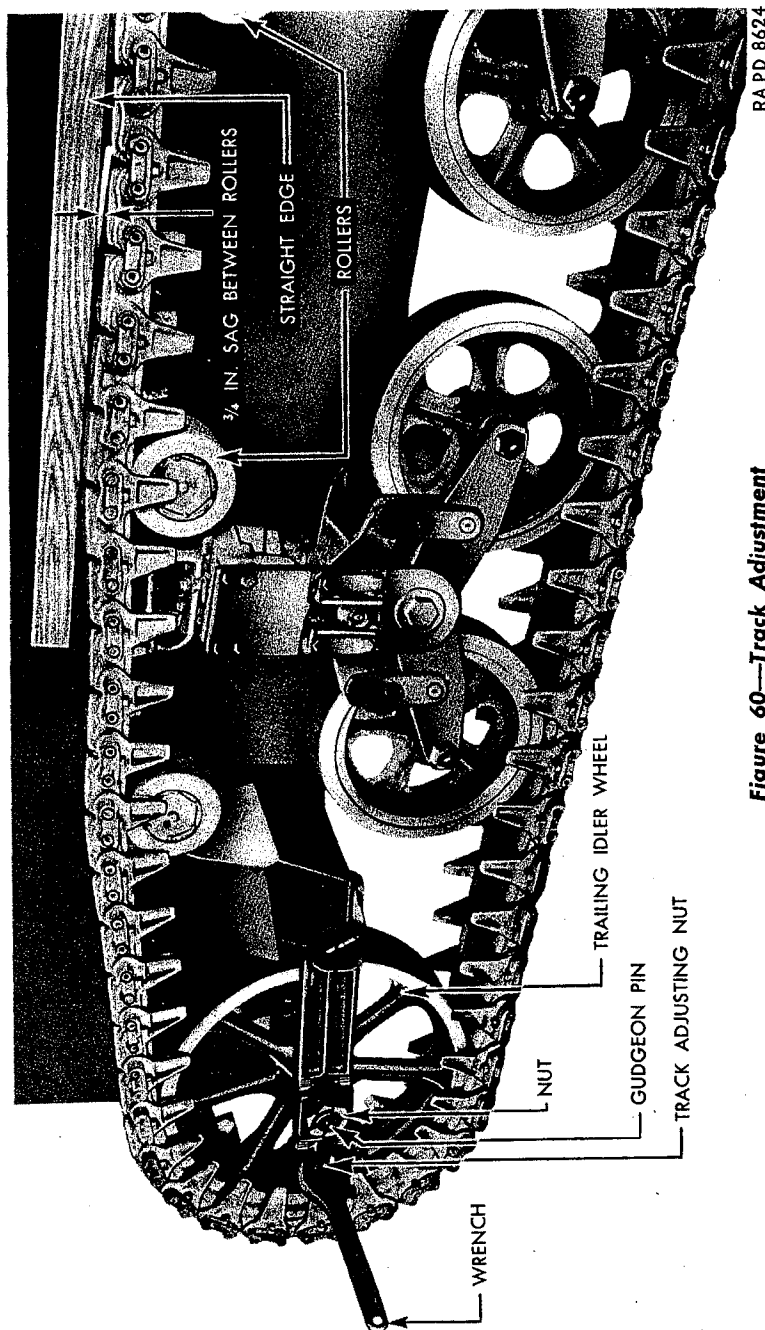

Figure 60—Track Adjustment
a 4-foot pry bar between the track and the mud guard at the point of measurement and press the track down with at least 175 pounds pressure. Then release the pry bar and allow track to take its normal slack position. The amount of slack should be measured by laying a straightedge on the top track at the rollers and measuring the maximum deflection (See Fig. 60).
(1) Remove cotter pins and loosen nuts that hold serrated ends of idler wheel arms to serrated idler arm guides, using idler wheel nut wrench, Tool No. C-105665 (Fig. 60).
(2) Turn idler arm guide adjusting nuts to draw idler wheels out to point of correct track tension described above, using a  $1\frac{1}{8}$ " engineer's wrench.
(2) Relieve track tension by loosening nuts at trailing idler wheel, as explained in Paragraph 112.
(3) Remove safety nut and wedge at inside and outside of end connections on track shoe midway between bottom of drive sprocket and ground.
(4) Remove end connections on shoe by prying with a crowbar inserted between track link and end connection, or by driving on end connection with a drift and sledge, if necessary (Figs. 60 and 61).
(5) Lower bottom portion of track to ground.
(6) Lower upper portion of track to ground by pulling it to rear of vehicle over drive sprocket, supporting rollers, and idler wheel.
(7) Move vehicle off track.